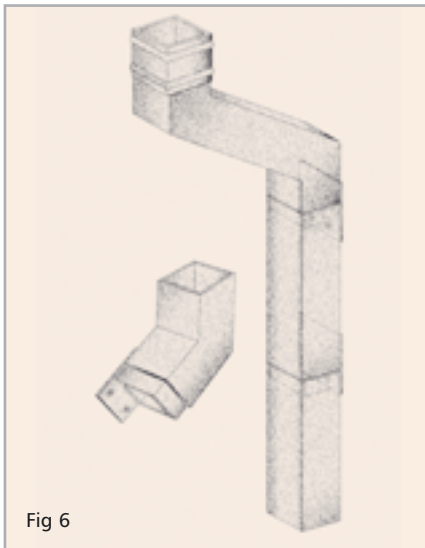

Fig 6
- Bends and branches are supplied with loose fixing plates to be site fitted depending on handing of fitting. See Fig 6.